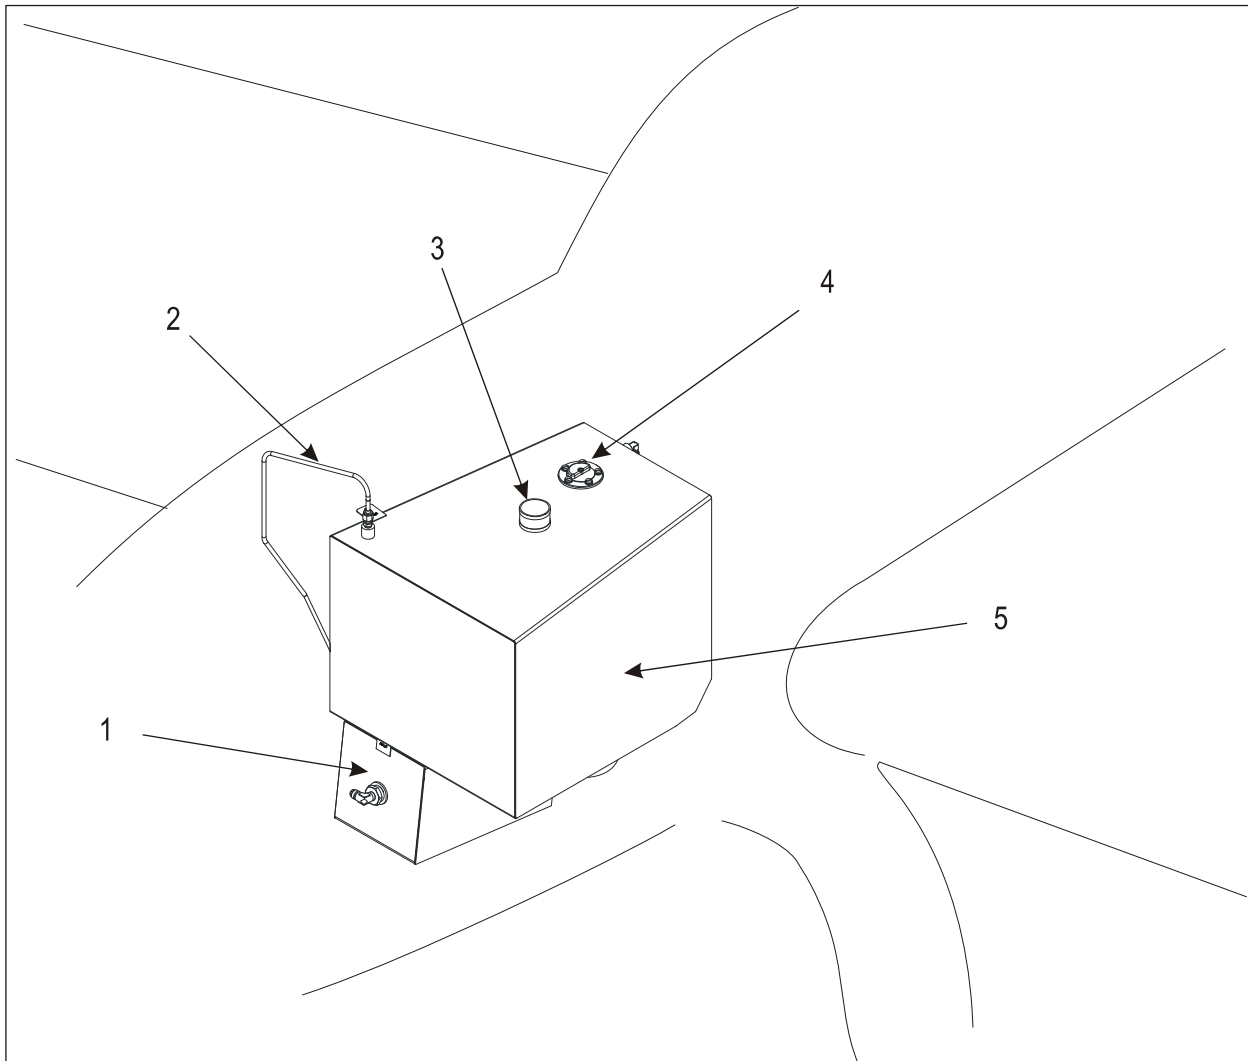

Figure 922-1, Center Tank and Environment
(Refer to Figure 922-1) The center fuel tank (5) with increased fuel capacity is installed in the same place and in the same manner as the standard fuel center tank. This includes the vent line (2) and the fuel filler (3) location. However the tank is increased in down- and rearward direction. The steel tubes of the fuselage carrying the tank and the tank mounting are reinforced. The fuel contents probe (4) has been changed while the indicator is still the same. The total fuel capacity of the center tank is 60 L (15.9 US gal). The total fuel capacity of the acro tank (1) is 9 L (2.4 US gal). The usable fuel quantity of both center and acro tank is 67 L (17.7 US gal).